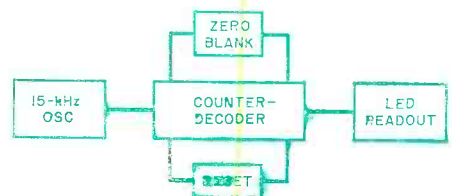

Fig. 1. Circuit includes a 15-kHz oscillator driving a counter-decoder.
Electronic experimenters will want to work with COSMOS units to get to know how they operate and learn some of their many uses. One way to get started is to build the random-digit generator shown in Fig. 1. To make the project more interesting, this circuit forms the equivalent of a six-sided die by randomly displaying digits 1 through 6 on a small seven-segment LED readout. Two COSMOS IC's and a single bipolar transistor are the only active elements.
Fig. 1. These diagrams show the evolution of a high-quality amplifier. At (A) is a common emitter with high gain. Circuit (B) has a buffer stage. Active pulldown is shown at (C); and (D) includes constant-current biasing.